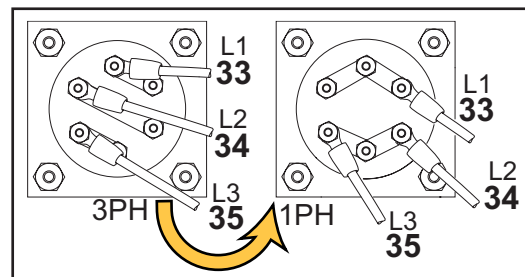

Fig. 14 - Reposition Jumper Wires for 1PH Wash Tank Heater Element
3. Reposition jumper bars for 1PH as shown (see Fig. 14).